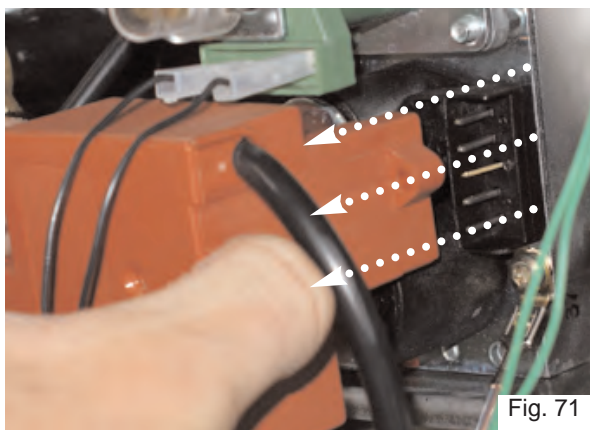

Fig. 71
5. Remove the spark generator by pulling forwards (see Fig. 71).